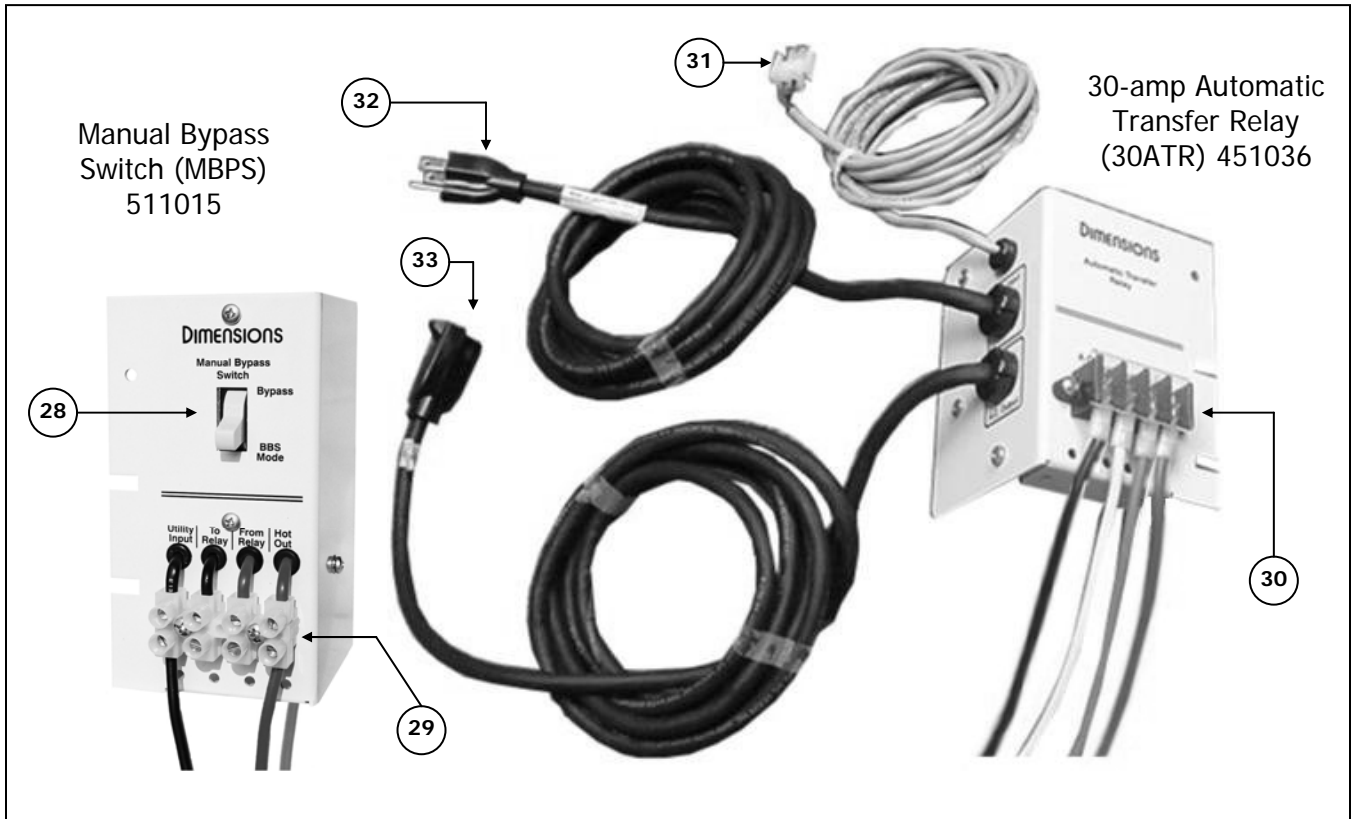

FIGURE 2: MBPS 511015 and 30ATR 451036 (right mount)
- (1) **Input Breaker:** Trips to protect utility power from a BBS short circuit.
- (2) **Output Breaker:** Trips to protect the BBS from a load short circuit.
- (3) **Battery Capacity:** LEDs that indicate the percentage of battery capacity available.
- (4) **Battery Charger On:** Green LED lights to indicate that external AC power is present to indicate that the battery charger is operating.
- (5) **Battery Charger Full:** Green LED lights to indicate that external AC power is present and the batteries are fully charged.
- (6) **Check Battery:** Yellow LED lights to indicate a problem in the batteries or the battery cable.
- (7) **Relay A On Batt:** Green LED lights to indicate that the BBS is in Inverter mode.
- (8) **Relay B Low Batt:** Green LED lights to indicate that the system is in Inverter mode and the useful battery capacity remaining is at the reference level chosen by the user (40% in most applications).
- (9) **Relay C 2 Hr. Time:** Green LED lights to indicate that the BBS has been in inverter mode for more than two hours.
- (10) **BBS AC Receptacle Cord:** External AC output from the BBS to the 30ATR or CMBPS-30ATR (Item 32 in Figure 2).
- (11) **BBS AC Plug Cord:** AC output from the BBS to the 30ATR or CMBPS-30ATR receptacle cord (Item 33 in Figure 2).
- (12) **Transfer Relay Connector:** Two-pin connector that connects to the 30ATR or CMBPS-30ATR to energize the 30 amp. transfer relay.
- (13) **Temp. Comp. Sense Connector:** Three-pin connector that connects to the 9 ft. battery temperature compensation sense cable.
- (14) **Battery Connector Cable:** Two-pin connector that connects to the battery cable assembly.
- (15) **Inverter On:** Green LED lights to indicate that the BBS is operating in inverter mode.
- (16) **Inverter – Shutdown – Low Batt:** Red LED lights to indicate that the battery voltage has dropped to 21VDC. The inverter will shutdown in five seconds due to a low battery voltage condition.
- (17) **Inverter – Shutdown – Overload:** Red LED lights to indicate that the power demand by the load is much larger than the power the BBS can deliver. The inverter will shutdown in five seconds when an overload condition occurs.
- (18) **Inverter – Shutdown – High Temp:** Red LED lights to indicate that the internal electronic circuit temperature has exceeded the maximum operating temperature limit. The inverter will shutdown in five seconds when a high temperature condition occurs.
- (19) **Power On/Off Switch:** Turns the inverter “On” or “Off” and activates or deactivates the dry relay contacts as well.
- (20) **Battery Voltage Test Points:** Jacks for measuring the battery voltage at the inverter.
- (21) **Number of Outages Meter:** Indicates the number of times the system has operated from batteries since the meter was reset.